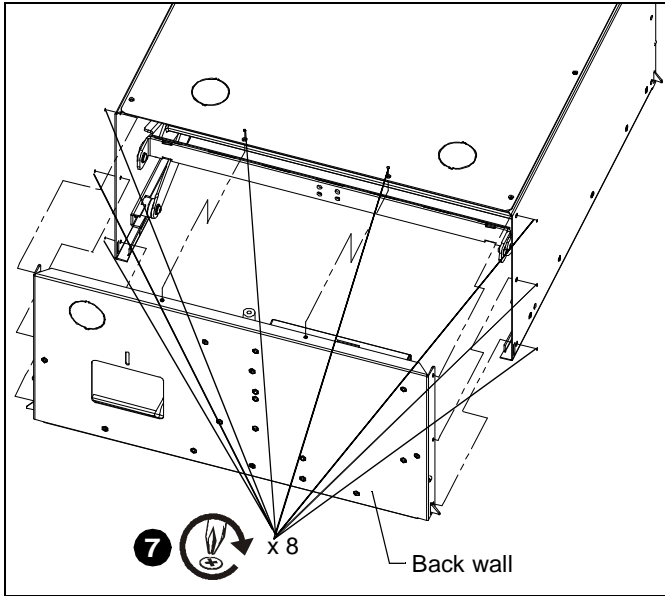

Figure 12
- Attach back wall to SL220 assembly using eight Phillips head screws. (See Figure 12)